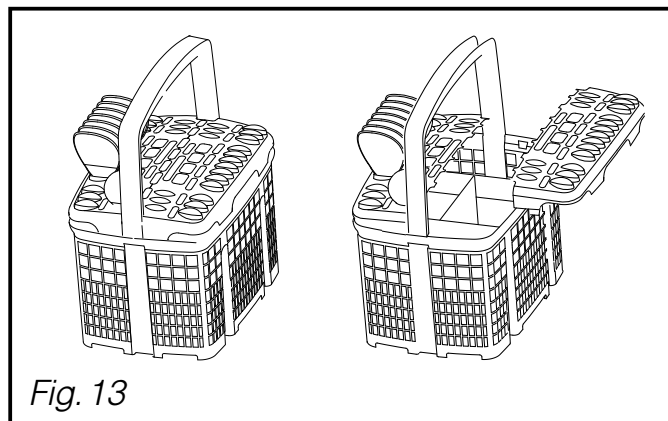

Fig. 13
**Movable grills are available for if you wish to load your cutlery in an orderly manner** (Fig. 13).